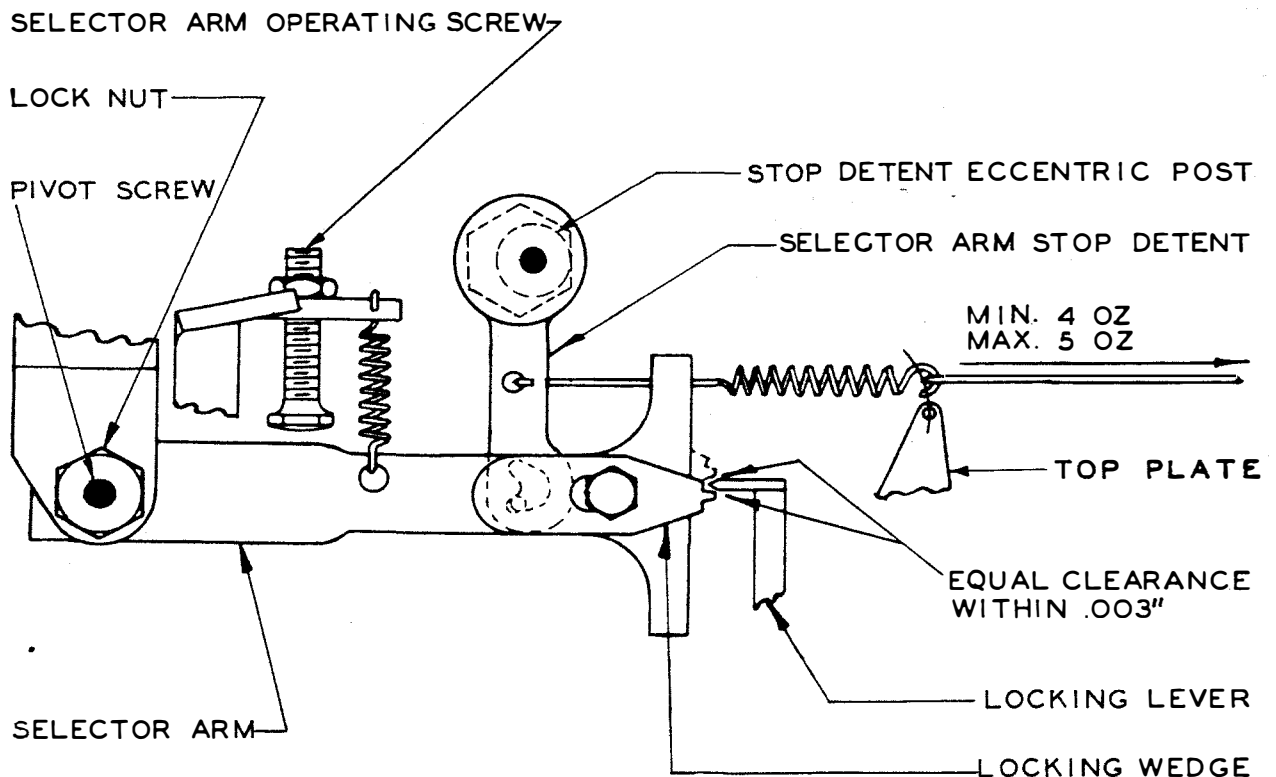

Figure 9
2.11 Locking Lever (holding magnet) should clear the sides of the locking wedge by equal amounts within 0.003 inch, as indicated in Figure 9, as gauged by eye when the selector arm is in its operated or unoperated position.
2.12 **Selector-arm Stop-detent Spring** (holding magnet) should require a pull of minimum 4 ounces, maximum 5 ounces, as indicated in Figure 9, to stretch the spring to position length.